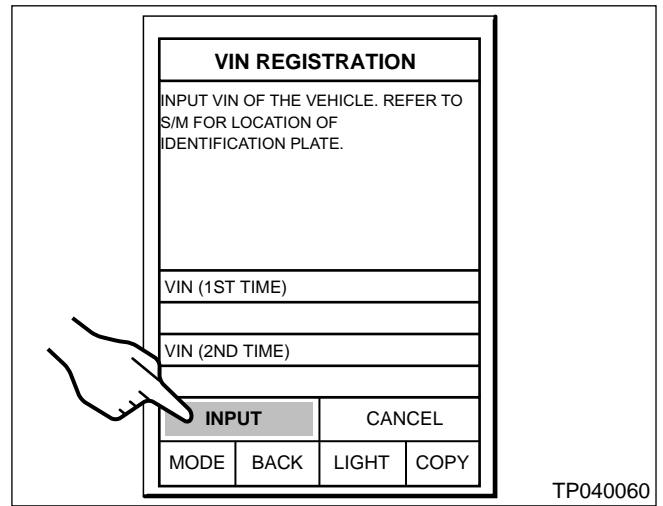

Figure 12
- e. Select **INPUT** on the “VIN Registration” screen. See Figure 12.